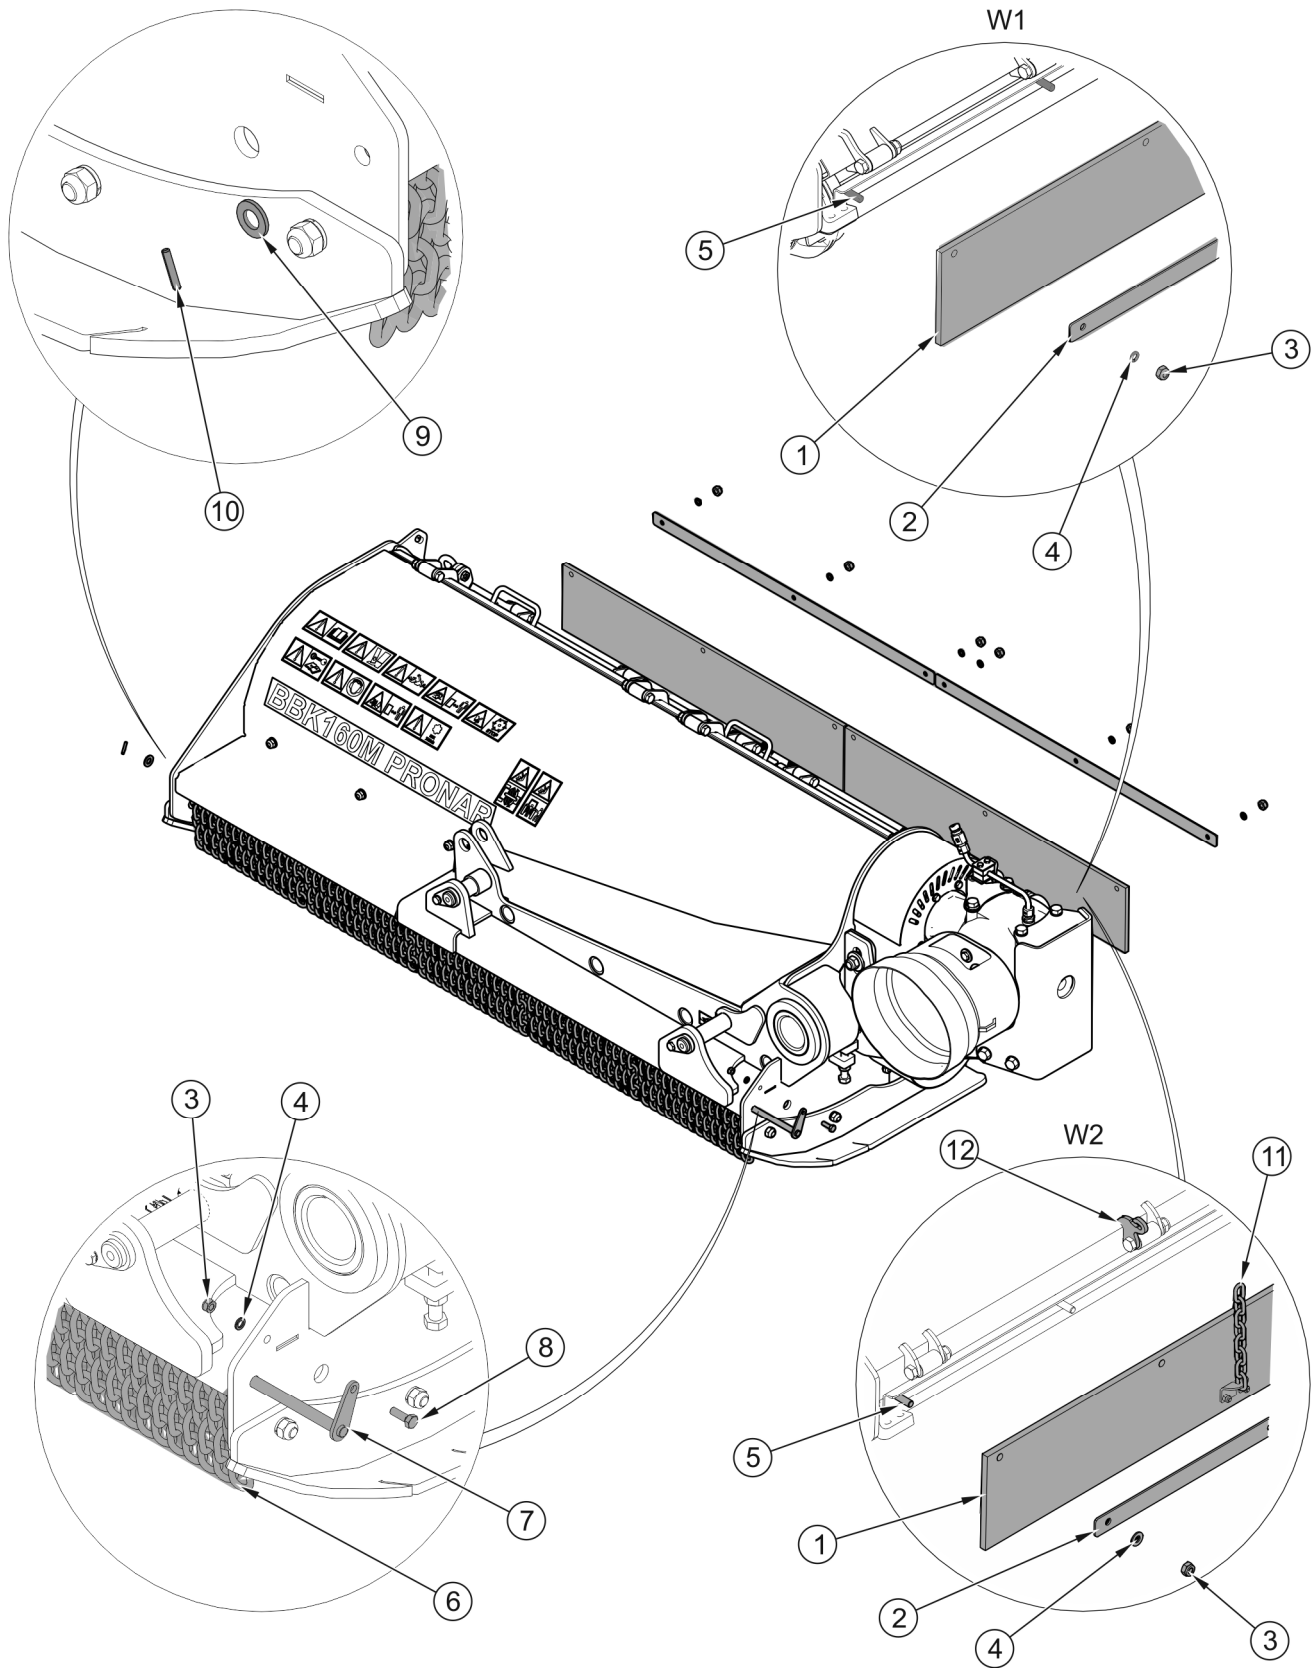

FIGURE 5.2 Disassemble safety guards
During the dismantling of the rubber guards (1) (FIGURE 5.2 – W1 – BBK160M, BBK180M, BBK200M), you must:
- undo the nuts (3) that secure the clamping strips (2).
- remove the strips (2) and rubber guards (1) from the mounting bolts (5).
To disassemble the rubber guards (1) (FIGURE 5.2 – W2 – BBK120M, BBK140M), you must:
- take the chains (11) supporting the rubber guards off the lugs (12).
- unscrew the nuts (3) that secure the clamping strips (2).